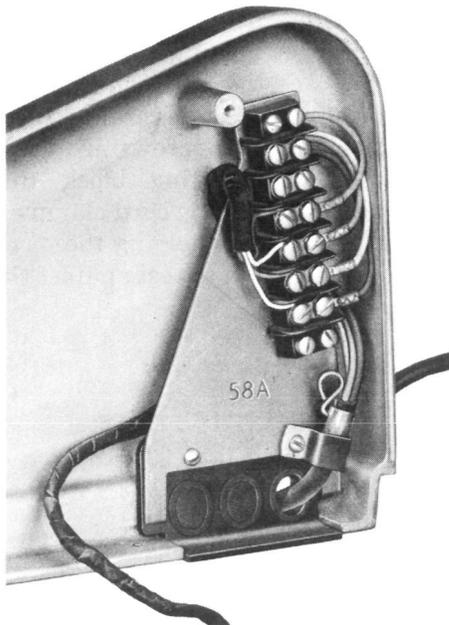

Fig. 8 - 58A Connecting Block
2. Fig. 8 and 9 show the 58A connecting block installed on the left-hand end panel. However, the following procedure also applies to right-hand installations. To install, remove the bracket holding the grommet, and discard. Place the 58A connecting block in a position to give access to all terminals. Longer machine screws are used to secure the 58A connecting block through the grommet. Place the cord clamp as shown in Fig. 8. The bolts holding the terminal block are long enough to rest against the side case for support.